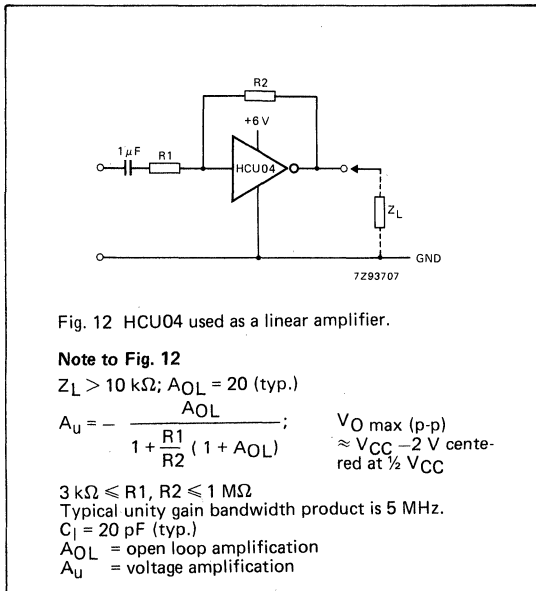

Fig. 12 HCU04 used as a linear amplifier.
- Linear amplifier (see Fig. 12).
Note to Fig. 12